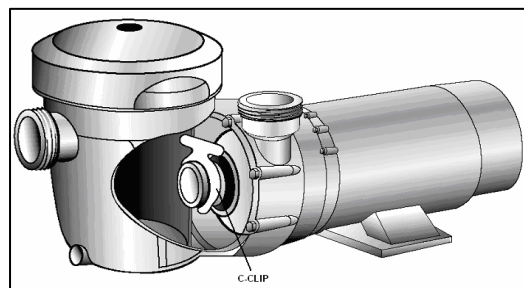

Figure 1
- Lift up on strainer 'C' clip and remove. (See Fig. 1)